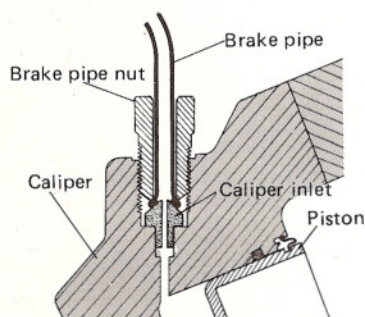

Fig. 4-3-13
- 1) Be sure to use new brake pipe at all times when the brake pipe is assembled, because the cut end of the used brake pipe has been flared along the shape of the caliper inlet or the brake hose outlet as shown in Fig. 4-3-13. If the used pipe is reinstalled as it is, the air-tightness of the connection decreases, causing the brake fluid leakage.